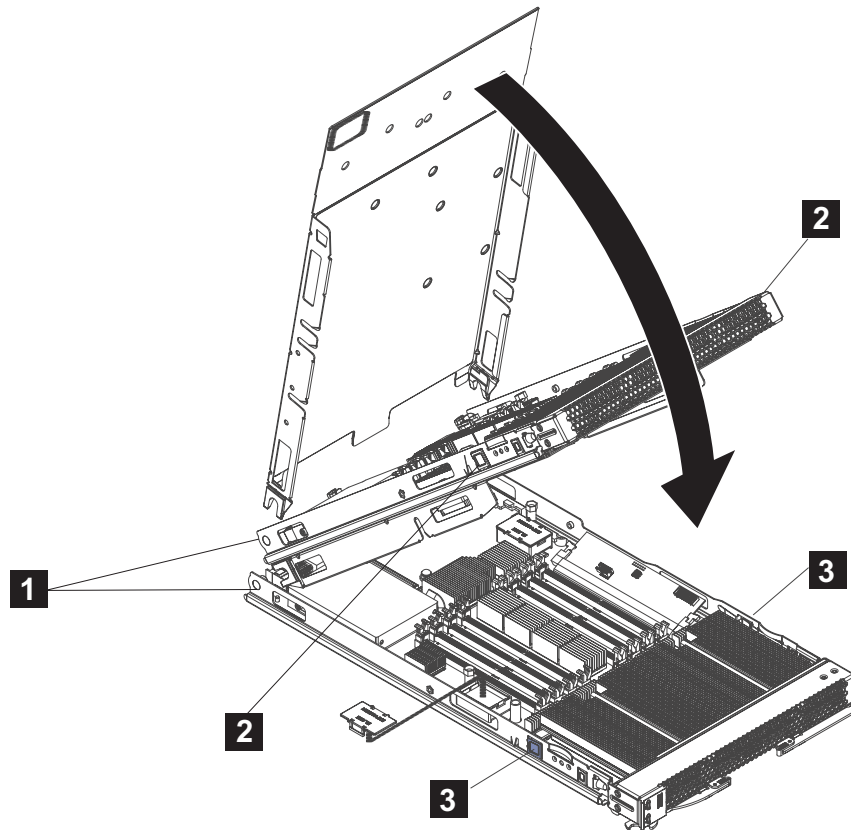

Figure 14. Installing the cover
2. Lower the cover so that the slots at the rear slide down onto the pins ( **1** in Figure 14) at the rear of the blade server. Before you close the cover, verify that all components are installed and seated correctly and that you have not left loose tools or parts inside the blade server.